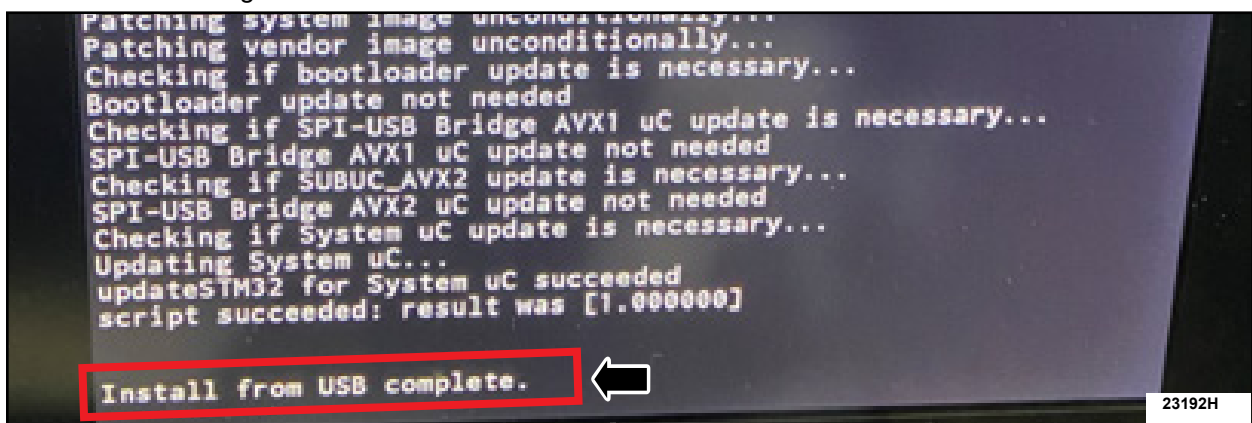

FIGURE 8
10. When the updater stops and displays **Update from USB complete**, the updated software has been installed. See Figure 8.